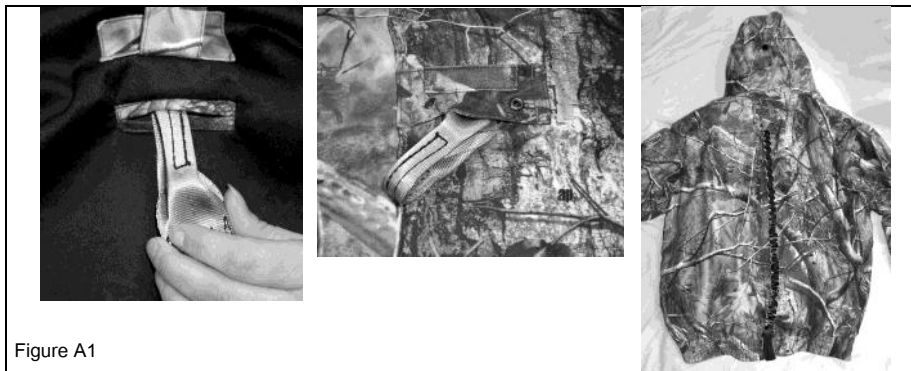

Figure A1
1. With all buckles unclipped, pick up harness by the shoulders to orient then put arms through shoulder straps (Figure A1).
1. From the **INSIDE**, put the Tether Loop from your Harness through the Harness Slit (located between the shoulders of your ScentBlocker® jacket) (Figure A1). Pull tether through slit so that it hangs down on **OUTSIDE** of the jacket.